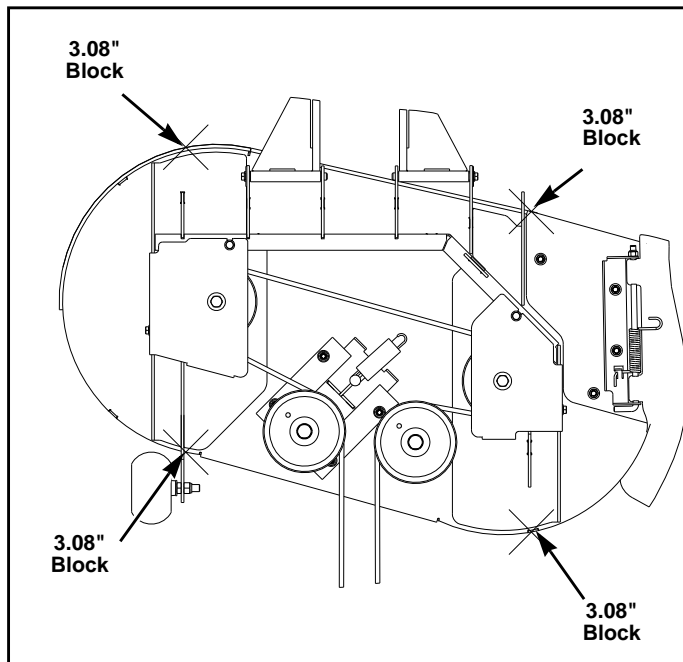

Figure 6-1
2. Place the 3.08" blocks under all four lift points. Figure 6-1